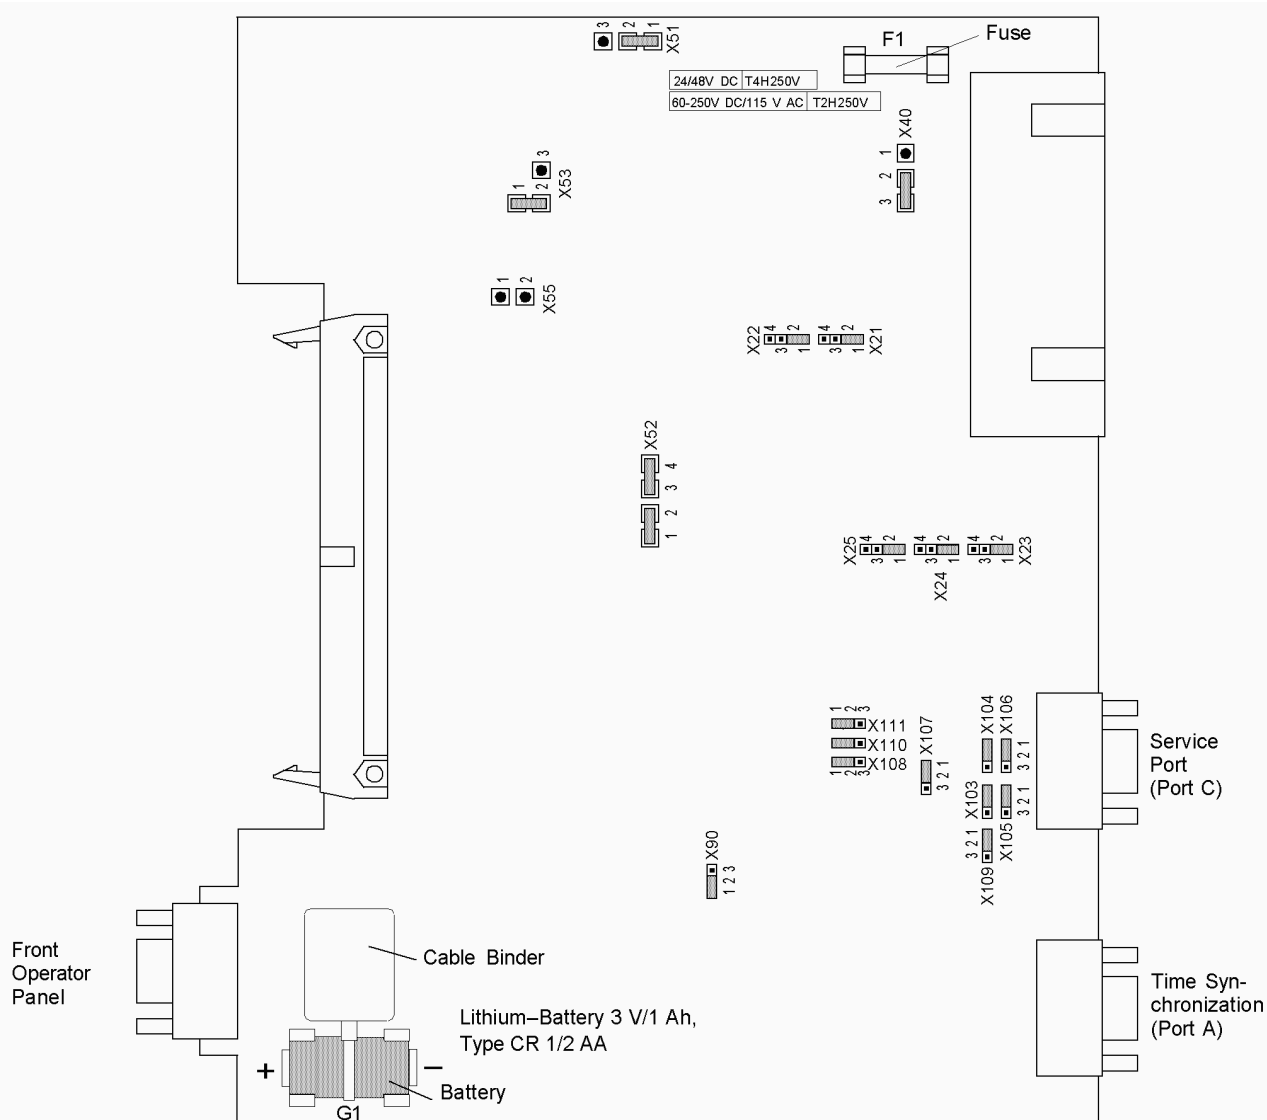

Figure 3-5 Processor board C-CPU with jumper settings required for the board configuration
- Check the jumpers according to Figures 3-5 to 3-10, 3-13, 3-14 and the following information. Change or remove the jumpers if necessary.